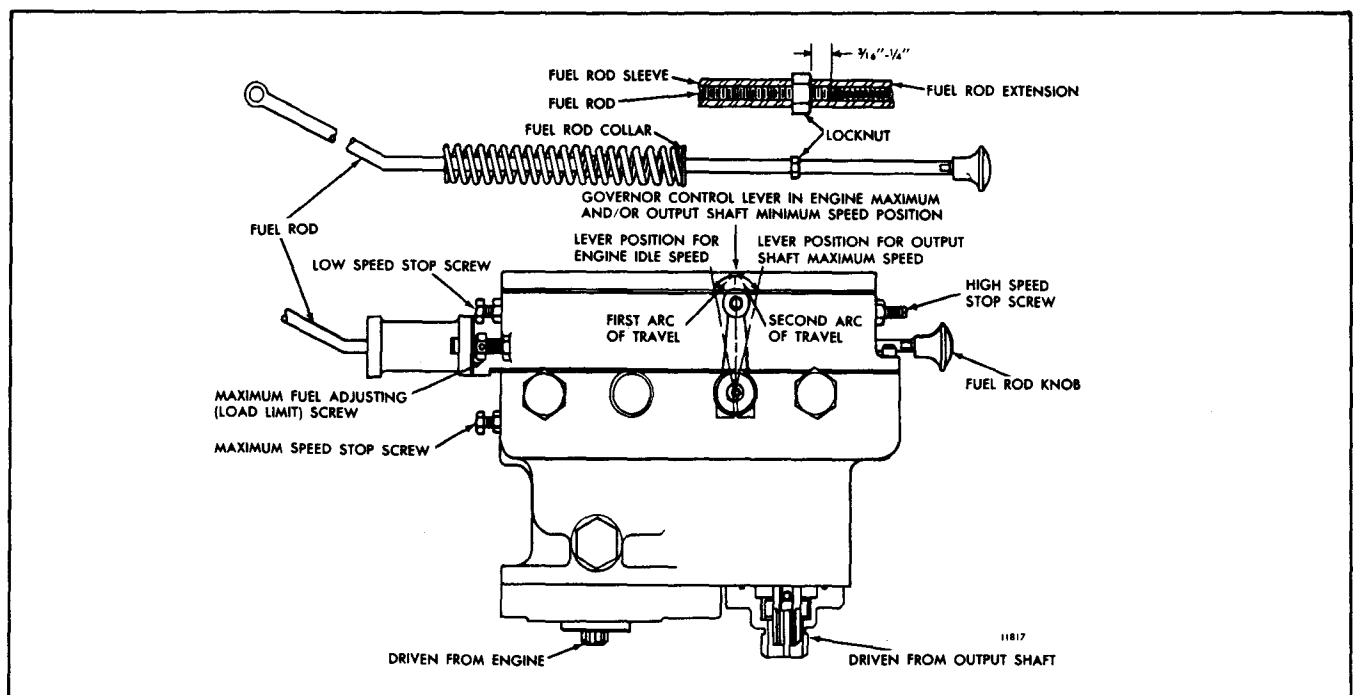
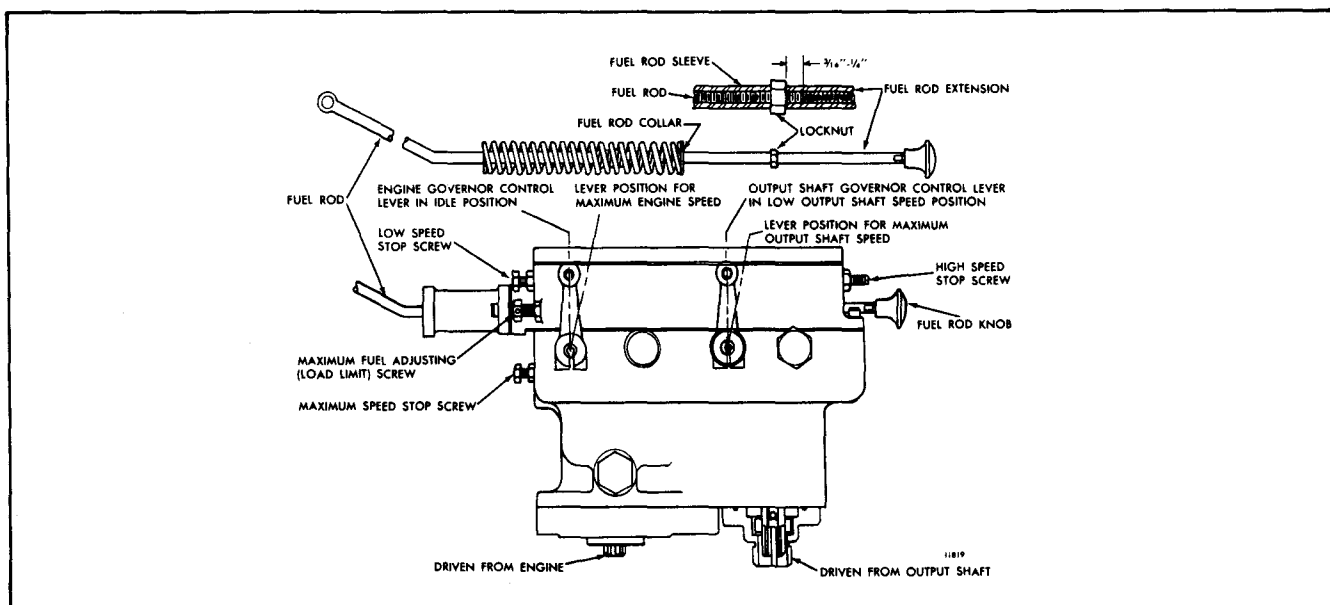

Fig. 1 - Single Lever Dual Hydraulic Governor
Fig. 3 - Two Lever Dual Hydraulic Governor
A dual hydraulic governor assembly is used with certain torque converter applications. This governor consists of two sets of flyweights and pilot valve assemblies that are interconnected to operate a single servo piston. One set of flyweights is driven by the engine. The other set is driven through a flexible shaft by the output shaft. The governor assembly used on a particular engine may have either single (Fig. 1) or dual (Fig. 3) speed control levers.
The control lever, on the single lever type governor, is attached to the output shaft governor speed adjustment shaft (Fig. 1). The engine governor and the output shaft governor speed adjusting shaft arms are linked together by a "slip-joint" link (Fig. 2).
Pull out the fuel rod knob (Figs. 1 and 3) when it is necessary to stop the engine.
2. Loosen the lock nut on the engine governor load limit adjusting screw (Fig. 1). Back the screw out until the end of the screw is flush with the face of the boss and tighten the lock nut.